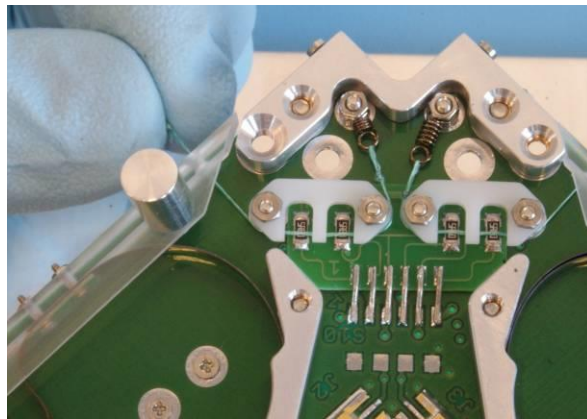

Figure 5-4 Alignment of HDRM burn wire
6. Align the wire over the resistors (Figure 5-4).